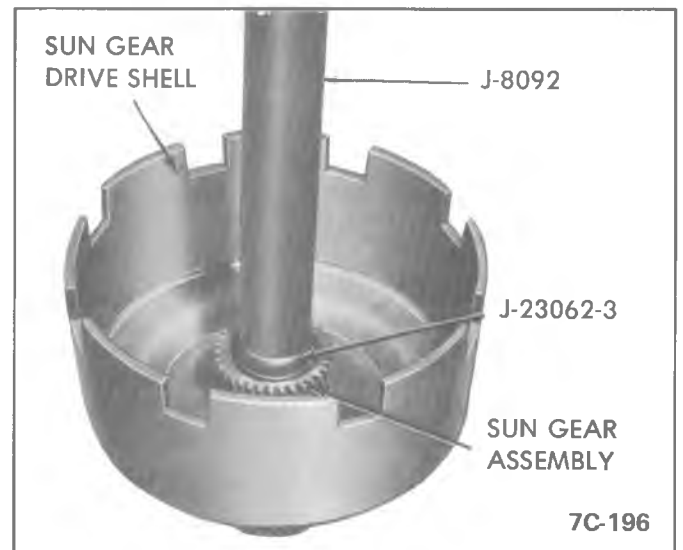

Figure 350C-183 Install Sun Gear Bushing
- Install sun gear bushings using Tool J- 23062-13 and Drive Handle J- 8092 and install flush to .010" below counter bores. See Figure 350C-183.